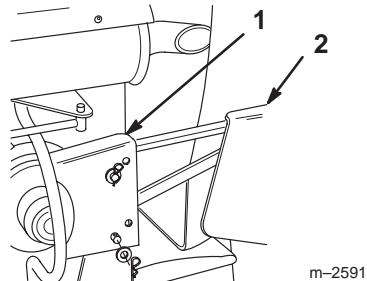

Figure 38
1. Remove belt covers from tractor and snowblower (Fig. 38),
(Fig. 38),